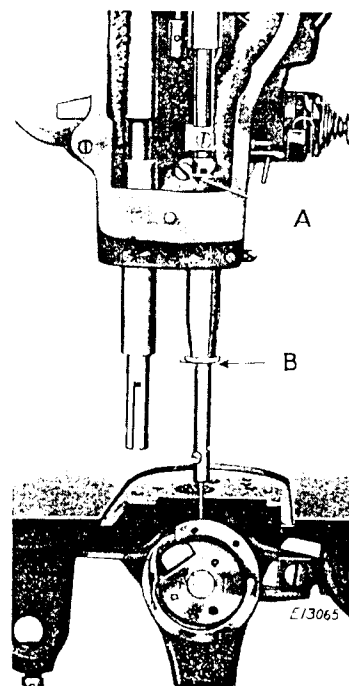

Fig. 18. Showing Needle Bar
Turn the balance wheel over toward you until the needle bar moves down to its lowest point. When the needle bar is in this position, the upper timing mark on the needle bar should be just visible at the lower end of the needle bar bushing, as shown at B, in Fig. 18.
In case the needle bar is not set at the correct height, loosen the needle bar connecting stud pinch screw (A, Fig. 18) and move the needle bar up or down until the upper timing mark is in the position, as instructed above, then securely tighten the screw (A).